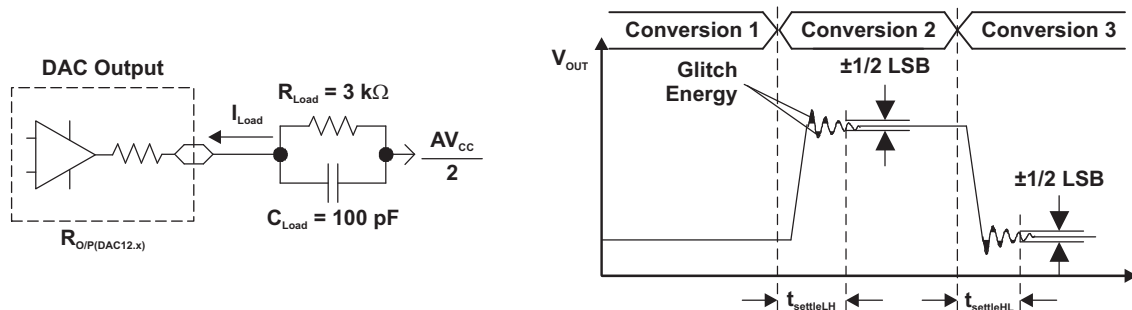
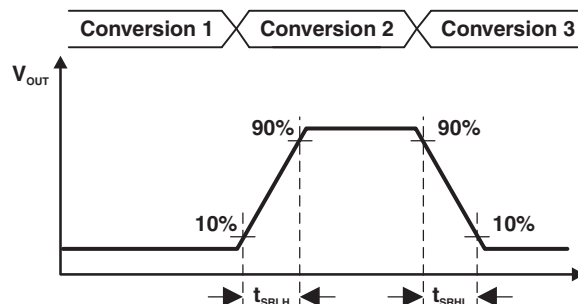

Figure 5-19. Settling Time and Glitch Energy Testing
Figure 5-20. Slew Rate Testing
V_{REF} = V_{CC}, DAC12IR = 1 (see Figure 5-19 and Figure 5-20), over recommended ranges of supply voltage and operating free-air temperature (unless otherwise noted)
(1) R_{Load} and C_{Load} connected to AV_{SS} (not AV_{CC}/2) in Figure 5-19.
(2) Slew rate applies to output voltage steps ≥ 200 mV.